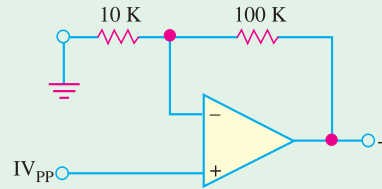

Fig. 68.40
2. For the non-inverting amplifier shown in Fig. 68.40, find the voltage gain of the circuit. (11)